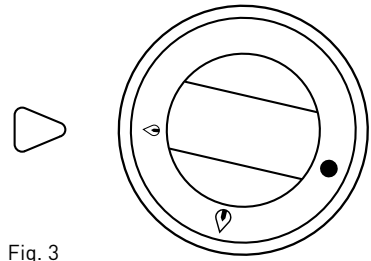

Fig. 3
- Lock the lower skewer mechanism (10) using the fixing lever (11) in the position in which Doner Kebab meat is inserted.
- Insert the skewer (9) with Doner Kebab meat into the lower and upper locking mechanisms (10 and 8). Lock the upper mechanism.
- Before inserting the skewer, move the upper skewer locking mechanism (8) along the guide rail (7) to the position in the middle.
- To rotate Doner Kebab meat, select "I" or "II" position at the control switch (5) on the motor body (4), accordingly to the desired direction of rotation.
- To reduce the number of operating burners, turn the ON/OFF knob of the heater mechanism to the "low flame" position (Figure 3).